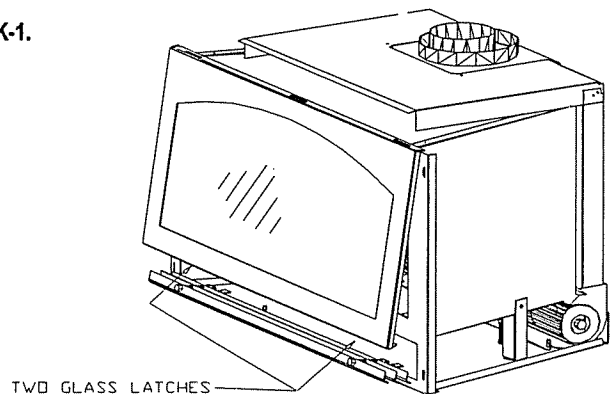

Fig. K-1
3. Replace the glass / black frame assembly. Refer also to Figure K-1.